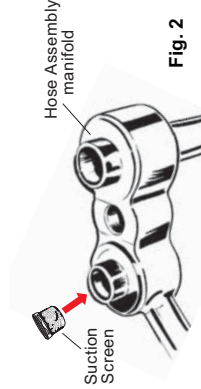

Fig. 2
7. Place the suction screen, basket first, into the suction port of the hose manifold. Hand press the filter into the port evenly. (**Fig. 2**)